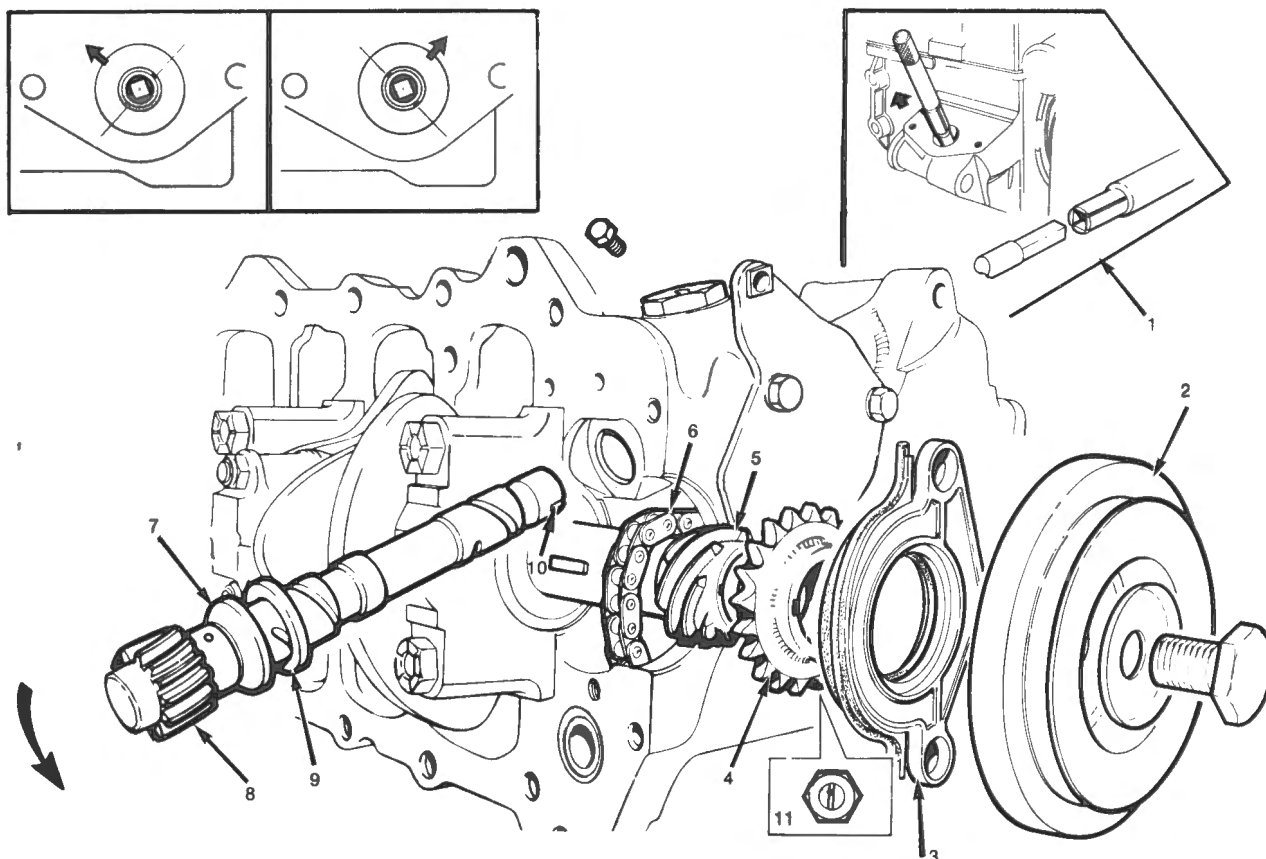

Fig. E-50
- 3 Fit the drive shaft with the drive slot positioned at 10 o'clock with the large offset segment uppermost, Refer B Fig. E-50.
- 4 Fit the distributor drive gear. As the teeth mesh the shaft will turn anti-clockwise through 90 degrees to bring the slot to 2 o'clock with the large offset segment uppermost, giving the correct position for No. 1 cylinder firing. Refer Fig. E-50.